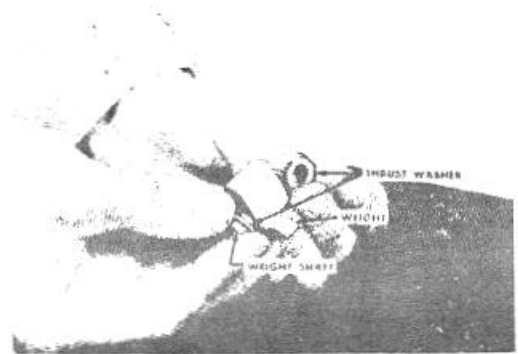

Figure 4-38. Assemble governor weight.
6. To assemble the weights to the carrier slide the weight pivot shaft through the weight and place a thrust washer on each side. Fig. 4-38.